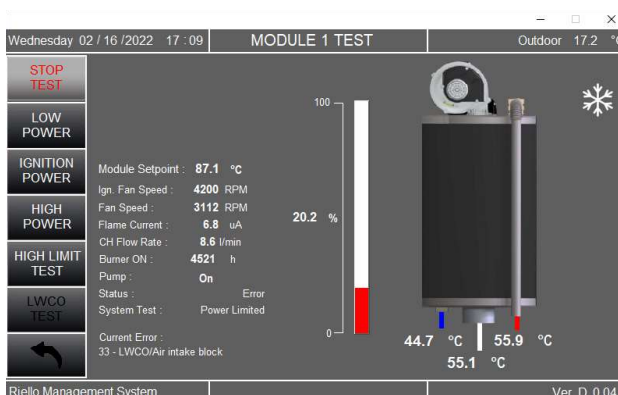

Fig.6 Module Screen - “MODULE TEST” mode
3. Tuning for combustion (See Fig. 6&7):
1. Test Boiler High Limit on Module Test Screen (Fig 6).
2. Test Boiler Low Water Cutoff on Module Test Screen (Fig 6).